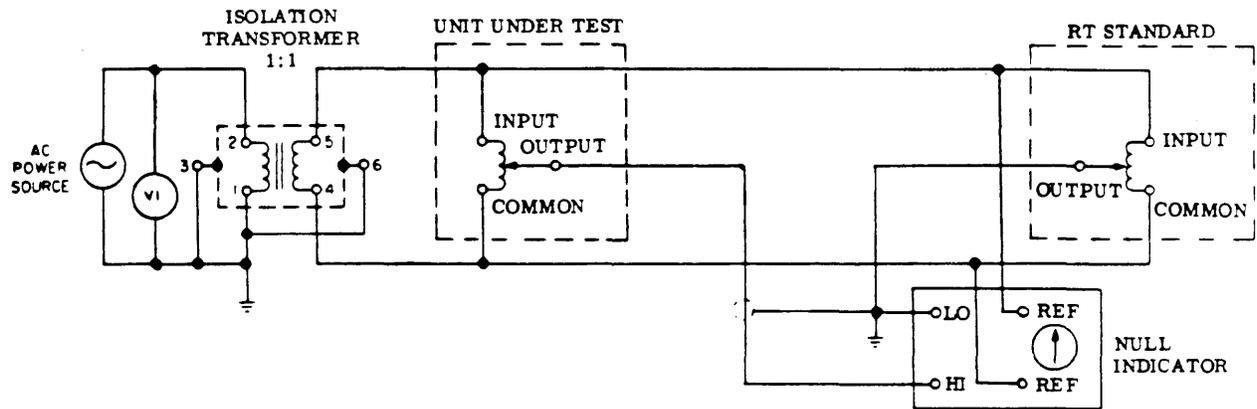

Figure 5-2. Ratio Accuracy Test
- a. Connect unit into test setup as shown in figure 5-2.